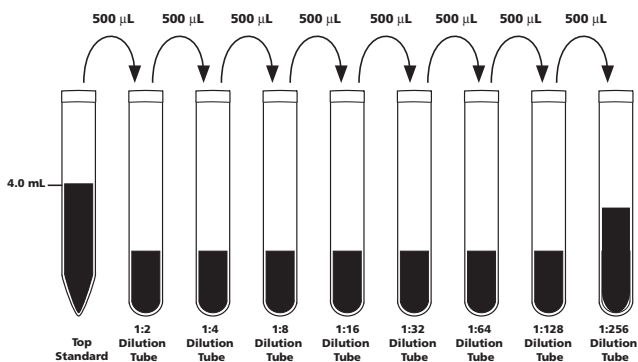

Figure 2. Preparation of BD CBA Mouse or Rat Soluble Protein Flex Set Standard Dilutions
7. Perform a serial dilution by transferring 500 µL from the Top Standard to the 1:2 dilution tube and mix thoroughly. Continue making serial dilutions by transferring 500 µL from the 1:2 tube to the 1:4 tube and so on to the 1:256 tube and mix thoroughly (see **Figure 2**). **Mix by pipette only, do not vortex.** Prepare one tube containing Assay Diluent to serve as the 0 pg/mL negative control.